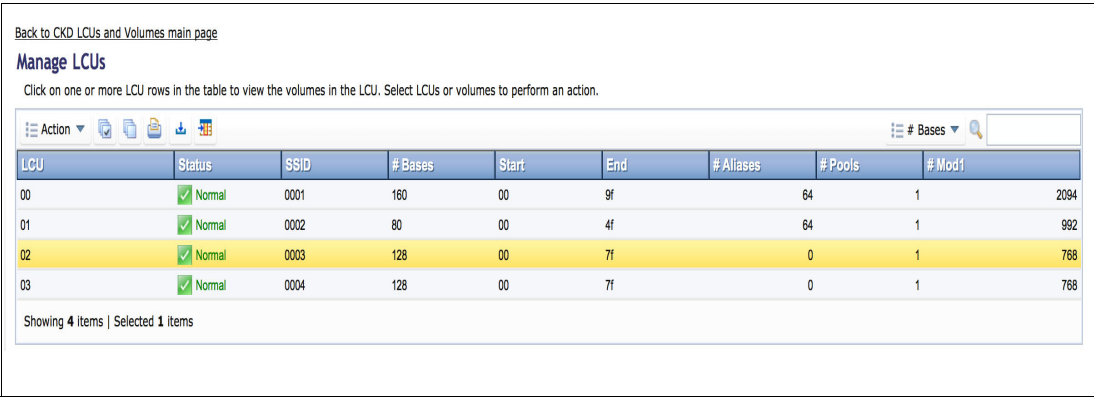

Figure 6-25 Manage LCUs panel
1. From the CKD LCUs and Volumes main page, we select **Volumes** → **CKD LCUs and Volumes**. Then, we select **Manage LCUs**. The manage LCU panel is displayed, as shown in Figure 6-25.